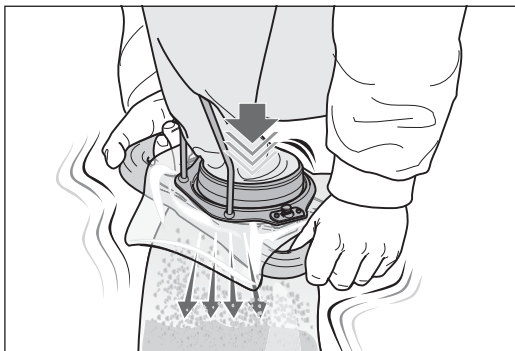

Fig. 28 Empty the dust bag by shaking it vigorously.
- 13 Emptying the dust bag into the waste bag by shaking it vigorously (fig. 28).